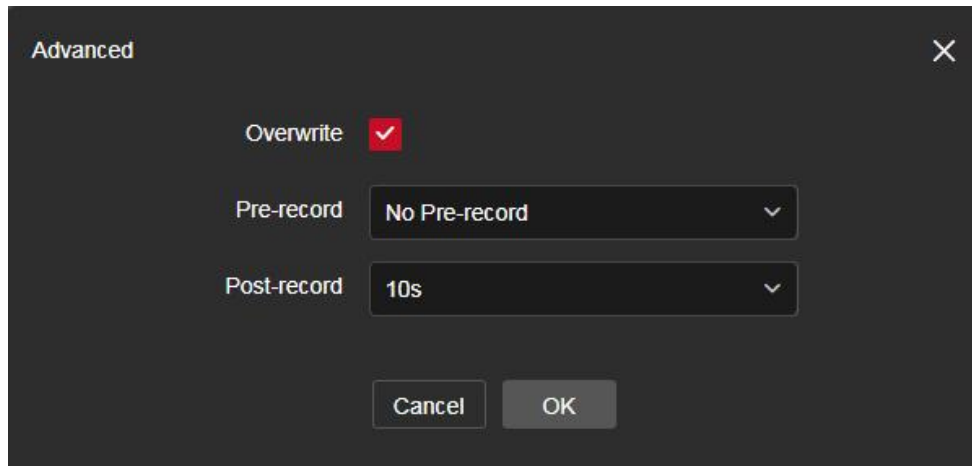

Figure 8-7-2
Step 4: Set the Pre-record and Post-record, click the “Advanced”, You can set the Pre-recorded time (No Pre-record, 5S, 10s, 15s, 20s, 25s,30s) and Post-record (5s, 10s, 30s, 1min, 2min, 5min, 10min), as shown in Figure 8-7-2